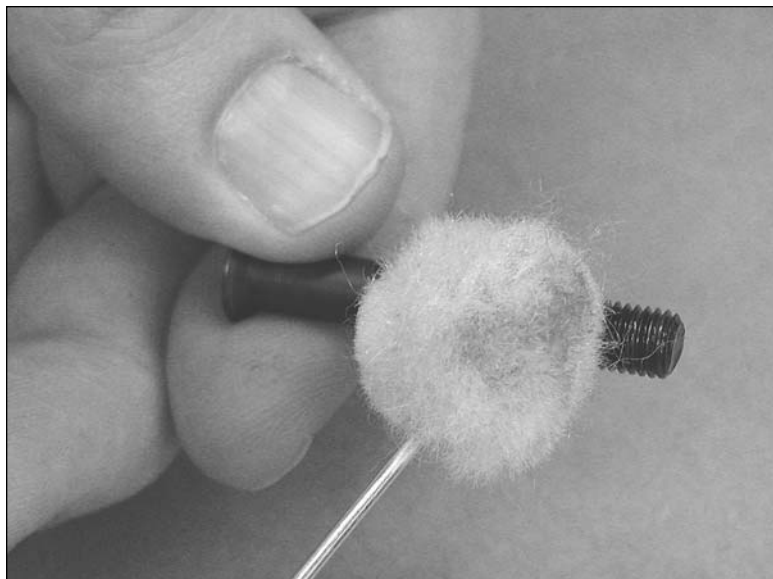

Figure 10E: Apply Release Agent to screw threads.
8. Coat the threads and shank of the guard screws and the underside of the guard screw heads. (See Figure 10E).